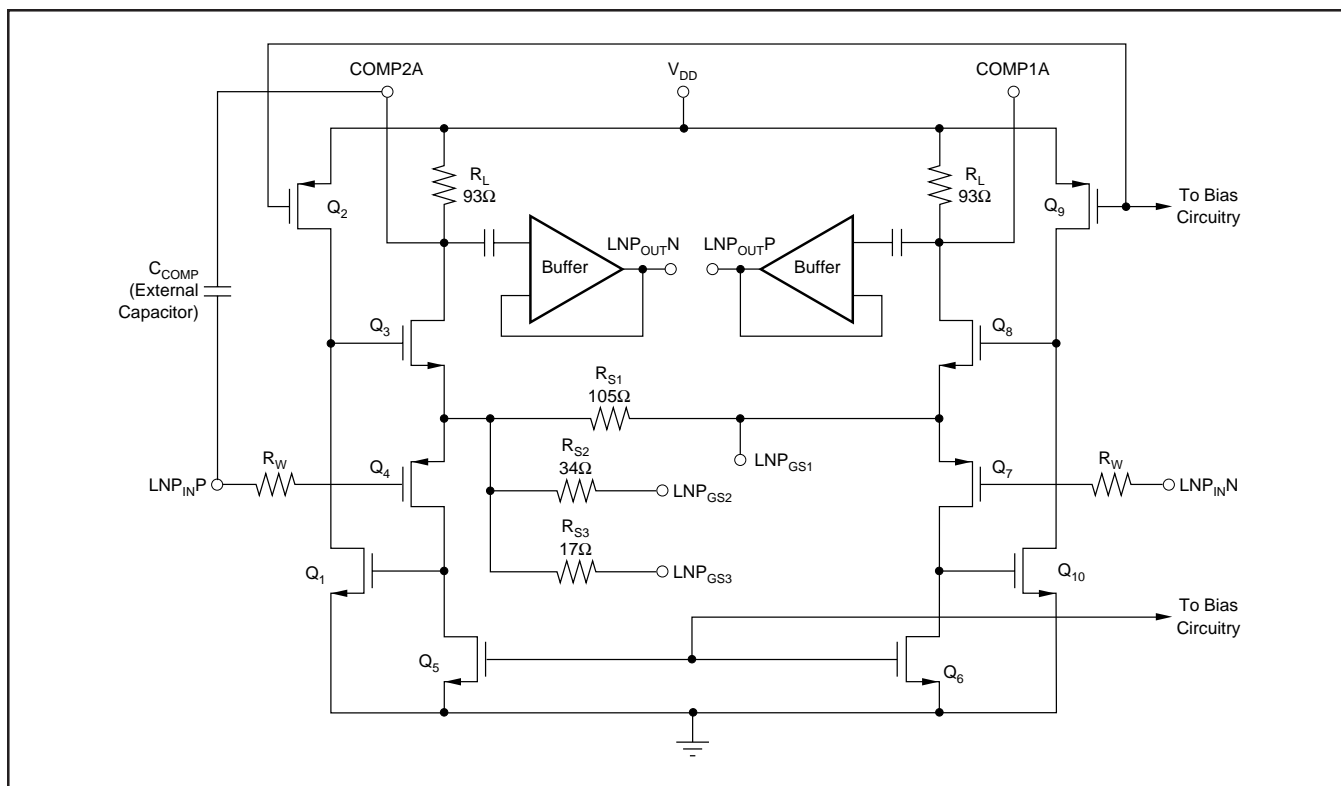

FIGURE 4. Schematic of the Low Noise Pre-amplifier (LNP).
The LNP is designed to achieve a low noise figure, especially when employing active termination. Figure 4 is a simplified schematic of the LNP, illustrating the differential input and output capability. The input stage employs low resistance local feedback to achieve stable low noise, low distortion performance with very high input impedance. Normally, low noise circuits exhibit high power consumption due to the large bias currents required in both input and output stages. The LNP uses a patented technique that combines the input and output stages such that they share the same bias current. Transistors Q₄ and Q₅ amplify the signal at the gate-source input of Q₄, the +IN side of the LNP. The signal is further amplified by the Q₁ and Q₂ stage, and then by the final Q₃ and R_L gain stage, which uses the same bias current as the input devices Q₄ and Q₅. Devices Q₆ through Q₁₀ play the same role for signals on the -IN side.
It is also possible to create other gain settings by connecting an external resistor between $LNPG_{S1}$ on one side, and $LNPG_{S2}$ and/or $LNPG_{S3}$ on the other. In that case, the internal resistor values shown in Figure 4 should be combined with the external resistor to calculate the effective value of R_S for use in Equation (1). The resulting expression for external resistor value is given in Equation (2).
where R_{EXT} is the externally selected resistor value needed to achieve the desired gain setting, R_{S1} is the fixed parallel resistor in Figure 4, and R_{FIX} is the effective fixed value of the remaining internal resistors: R_{S2} , R_{S3} , or $(R_{S2} \parallel R_{S3})$ depending on the pin connections.
For greatest flexibility and lowest noise, the user may wish to shape the frequency response of the LNP. The COMP1 and COMP2 pins for each channel (pins 10 and 11 for channel A, pins 26 and 27 for channel B) correspond to the drains of Q_3 and Q_8 in Figure 4. A capacitor placed between these pins will create a single-pole low-pass response, in which the effective R of the RC time constant is approximately 186Ω .